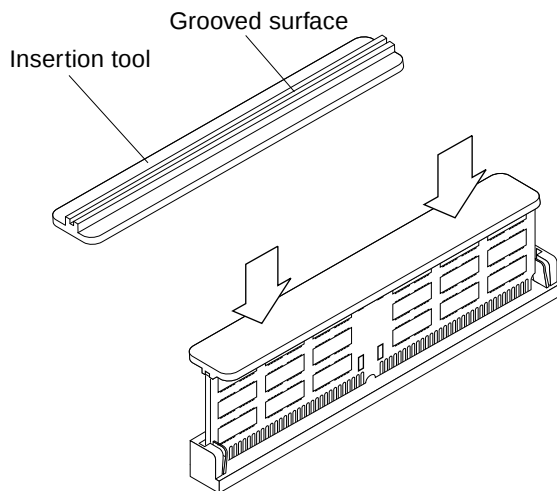
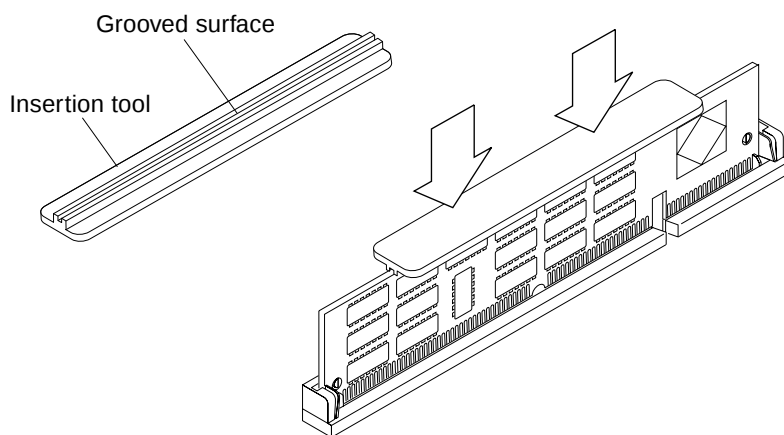

FIGURE 11-31 Inserting a DSIMM
FIGURE 11-32 Inserting a VSIMM / NVSIMM
8. Place the grooved surface of the insertion tool at a 90-degree angle on the upper edge of the SIMM (FIGURE 11-31 and FIGURE 11-32).